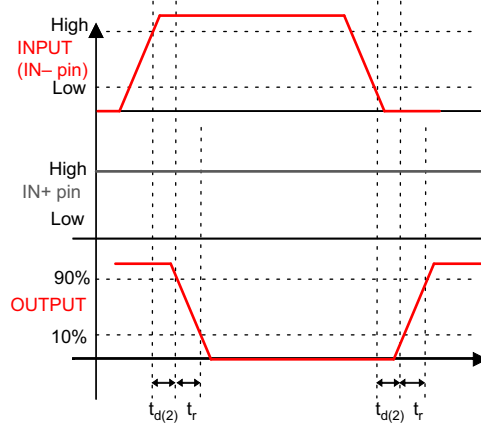

図 5-2. Inverting Configuration (PWM Input to IN– Pin (IN+ Pin Tied to V_{DD}), Output Represents OUTH and OUTL Pins Tied Together in the UCC27511A)
$V_{DD} = 12\text{ V}$, $T_A = T_J = -40^\circ\text{C}$ to 140°C , $1\text{-}\mu\text{F}$ capacitor from V_{DD} to GND. Currents are positive into, negative out of the specified terminal. See Figure 5-1, Figure 5-2, Figure 5-3, and Figure 5-4
(1) See timing diagrams in Figure 5-1, Figure 5-2, Figure 5-3, and Figure 5-4.